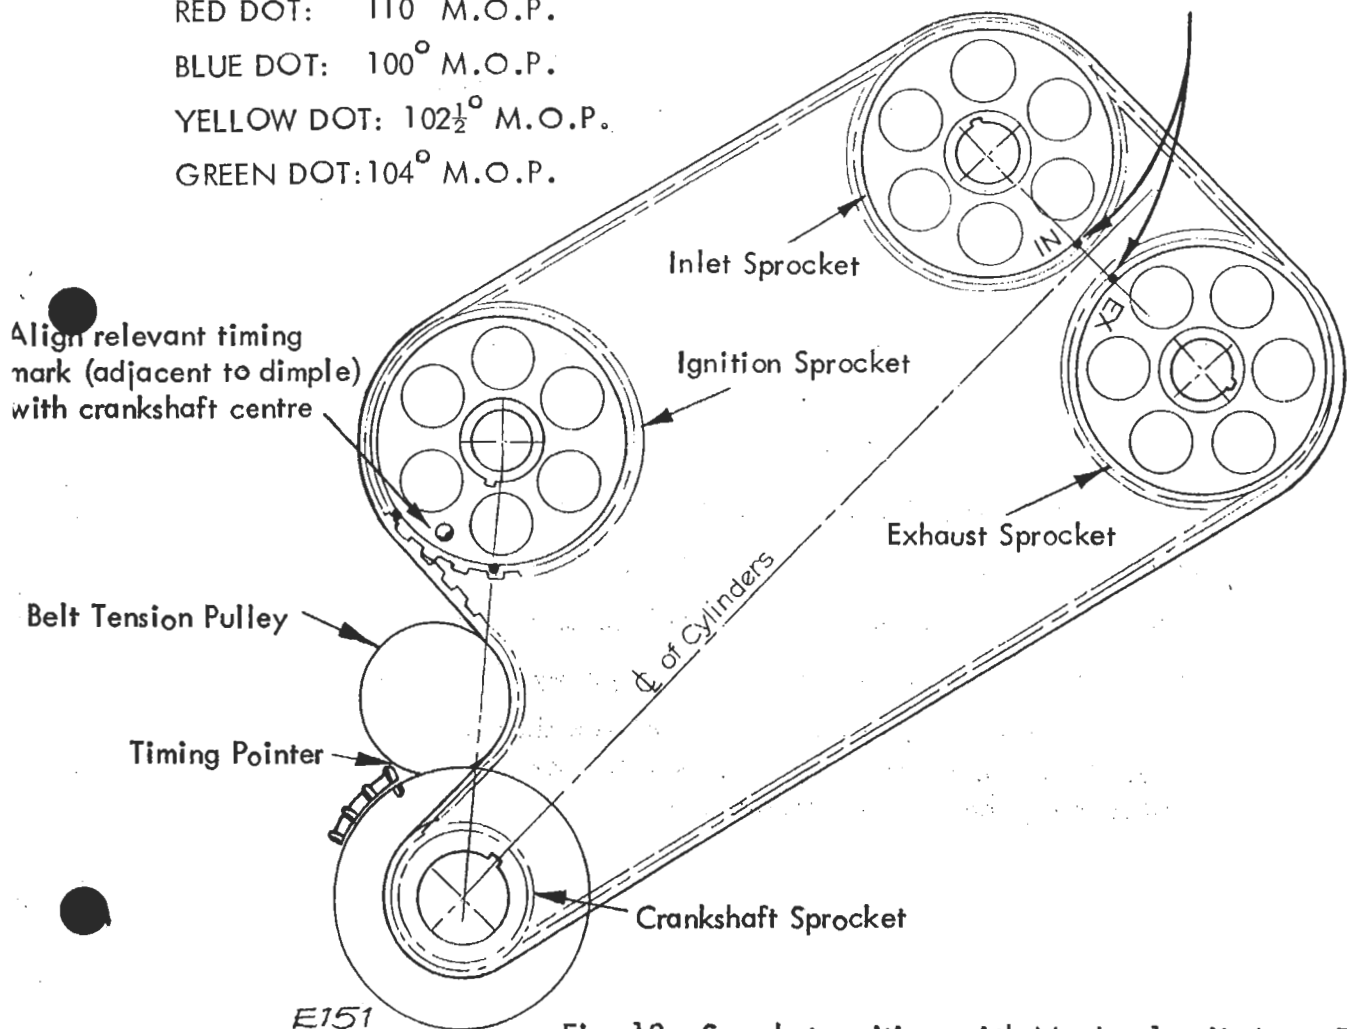

Fig. 13 - Sprocket positions with Number 1 cylinder at TDC.
11. Re-align timing marks on the camshaft sprockets (Fig. 13)
1. Reverse the removal procedure. Before fitting belt, ensure correct position of crankshaft, camshafts and auxiliary shaft sprocket (fig.13).